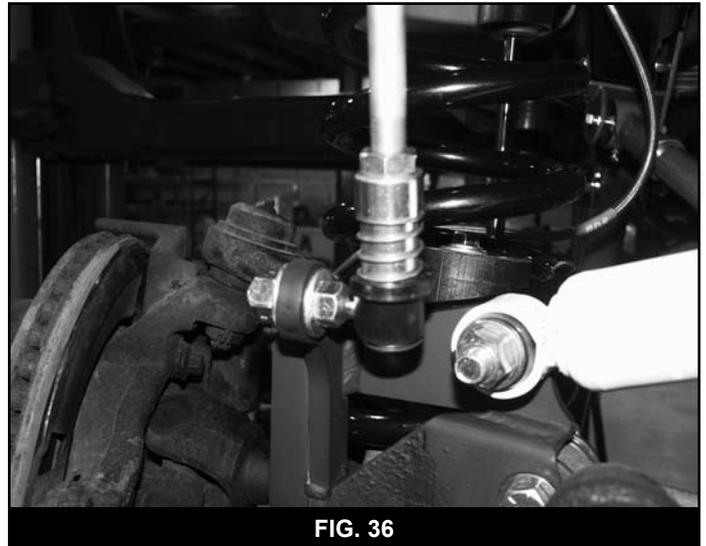

FIG. 36
93. Ensure that the vehicle is setting level. Pull the spring collar up on the sway bar disconnect end and attach it to the ball stud (Fig 36). Make sure that the disconnect end stud hole is square with the ball stud and tighten the jam nut against the disconnect end. The disconnects allow for  $\frac{1}{2}$ " of adjustment ( $\frac{1}{2}$ " longer from full-bottomed out). If necessary, adjust the links side-to-side to compensate for any unevenness in the vehicle, allowing for the easiest possible disconnecting of the ends.